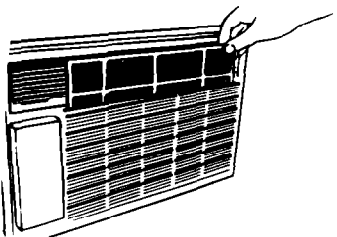
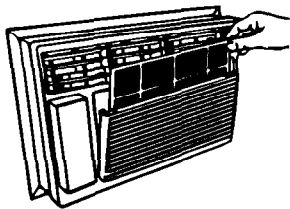

Figure 3
Figure 4
- Units with rigid filters allow you to remove the filter without removing the front. Simply grasp filter, located behind the front panel, and pull up (see figure 3), or gently pull the top or bottom of the front panel towards you, pivoting it away from the cabinet. Pull filter either up or down and out by grasping tabs on the filter frame. See figure 4.